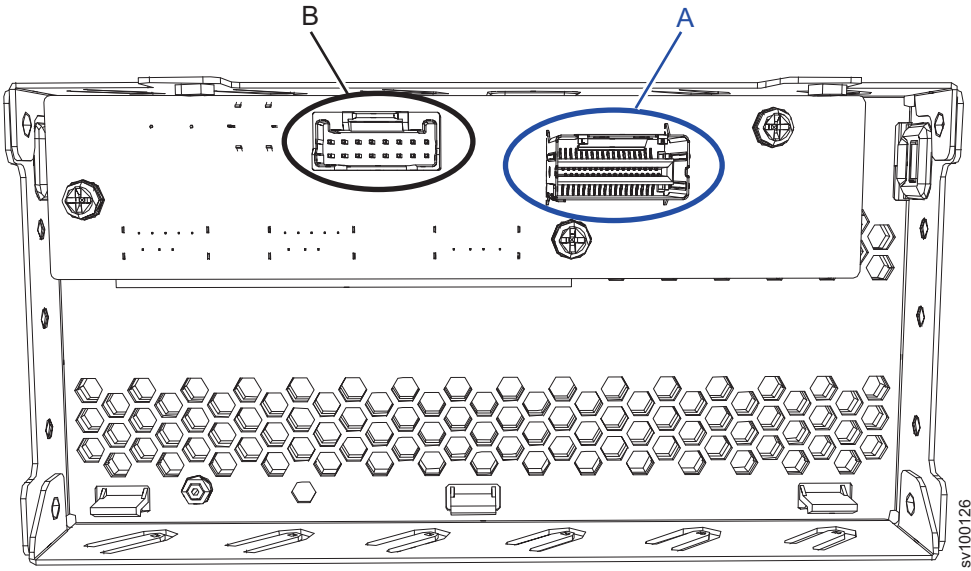

Figure 170. Cable connectors on the back of the 2145-SV1 operator-information panel
2. Connect each cable to the appropriate connector at the rear of the operator-information panel, as shown in Figure 170 on page 205.